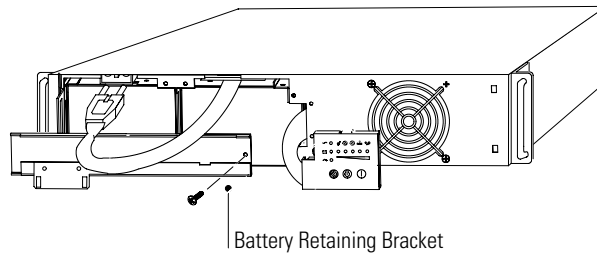

Figure 43. Removing the Battery Retaining Bracket
4. Unscrew and set aside the battery retaining bracket (see Figure 43).